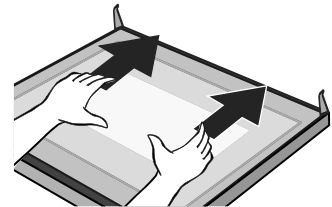

Figure 3
3. Place the door flatwise with door top cover towards yourself, put your hands on the glass and pull it towards the oven. (Figure 3)